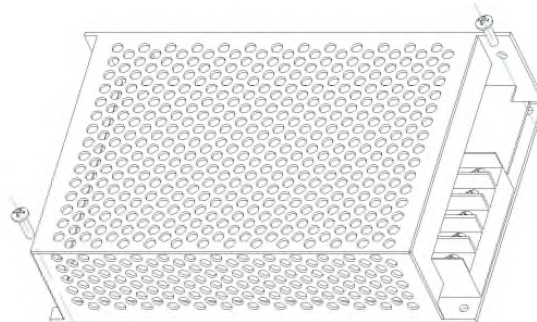

Figure 1
1. Using two M3 Sems Philips screws fasten the PBC-70 power supply to the cabinet directly above main power supply transformer as shown in figure 1